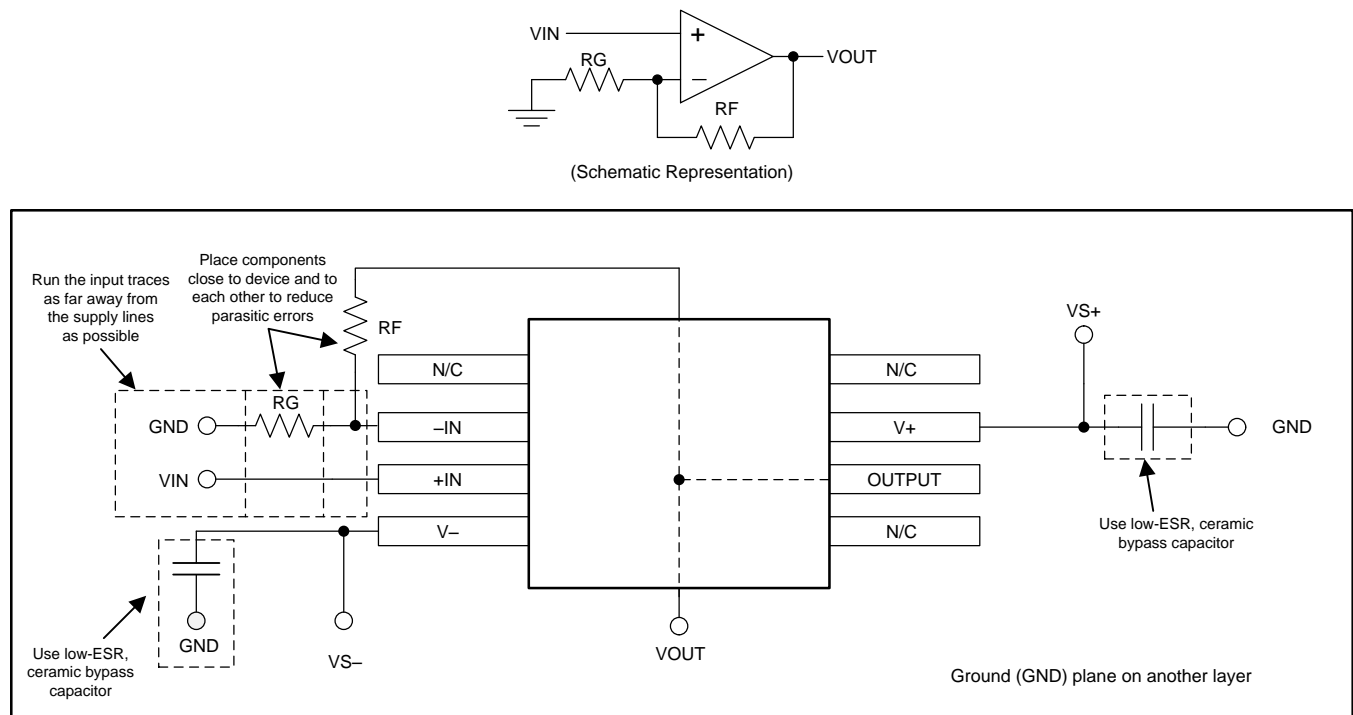

Figure 42. OPA1641 Layout Example
- Place the external components as close to the device as possible. As shown in Figure 42, keeping RF and RG close to the inverting input minimizes parasitic capacitance.